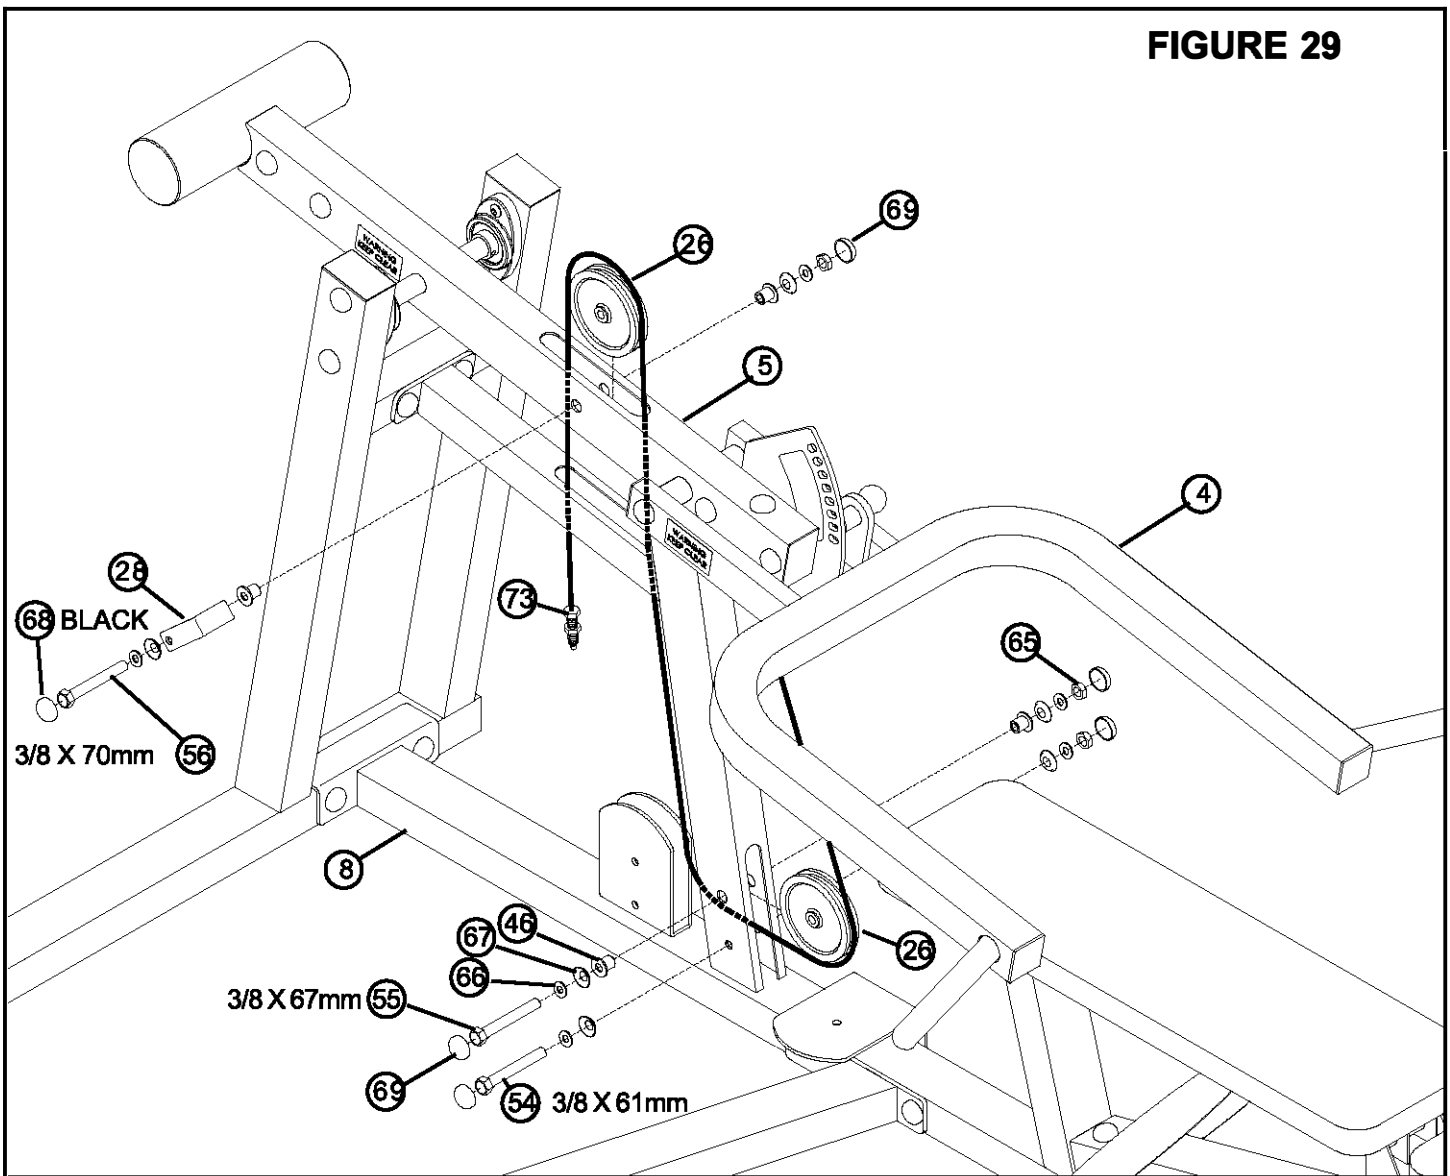

**FIGURE 28**
- **SECURELY** assemble the PRESS ARM (4) to the PIVOT ARM (5) using two RH CAPS (69), two 3/8 X 43mm BOLTS W/LOCTITE (52), two 3/8" SAE WASHERS (66) and two 3/8" RH WASHERS (67) as shown in FIGURE 28.
- **SECURELY** assemble the COUNTERBALANCE (1) to the PIVOT ARM (5) using four RH CAPS (69), two 3/8 X 61mm BOLTS (54), four 3/8" SAE WASHERS (66), four 3/8" RH WASHERS (67) and two 3/8" LOW HEIGHT LOCK NUTS (65) as shown in FIGURE 28.